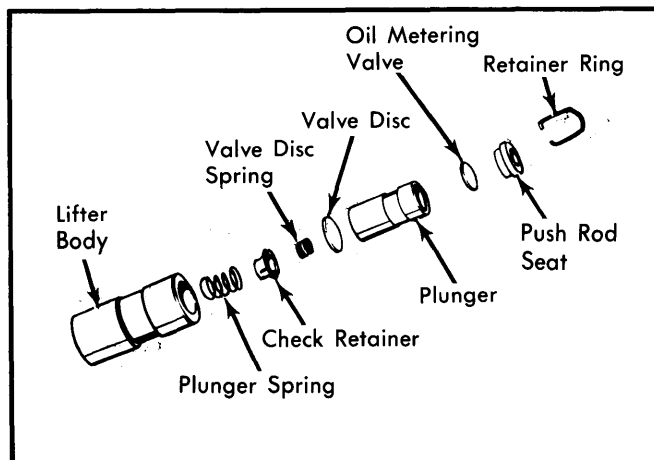

Fig. 6 Exploded View of Valve Lifter
**Disassembly** — With small screwdriver, remove retainer ring. Remove push rod seat and oil metering valve. Remove plunger and plunger spring. Remove check valve retainer from plunger, then remove valve and spring. See Fig. 6.